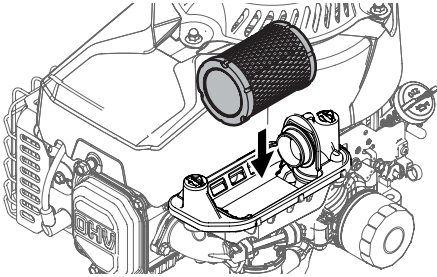

Figure 14
6. Attach the new air filter with foam element, aligning the hole in the air filter with the intake manifold (Figure 14).